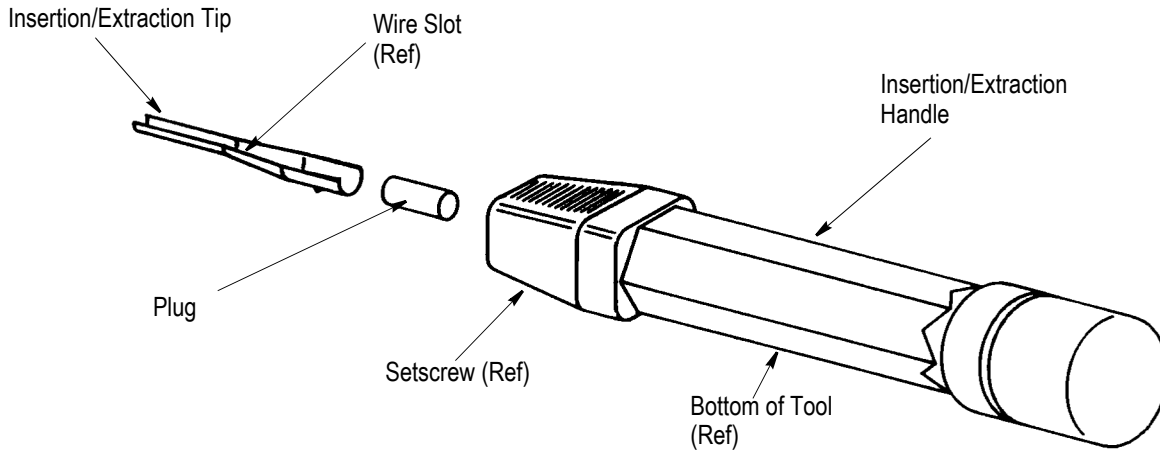

Figure 2
**3. TOOL ASSEMBLY** (Figure 2)